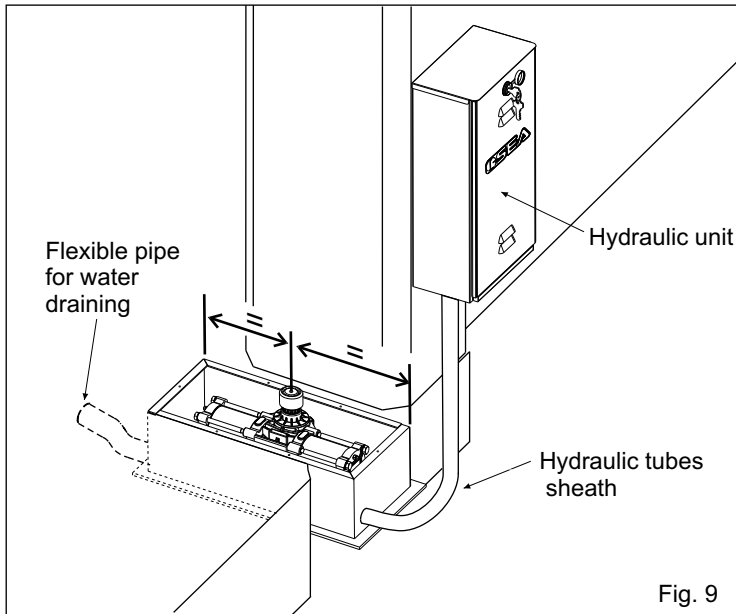

Fig. 9
- a water waste pipe in flexible plastic of about 40 mm of diameter to put inside the provided hole of the box before it is concreted (Fig. 9). **It must be brought to the drain of the sewer line;**
- a sheath for the passage of the hydraulic tubes of about 32 mm of diameter which must be brought to the proximity of the hydraulic unit box (Fig. 9).